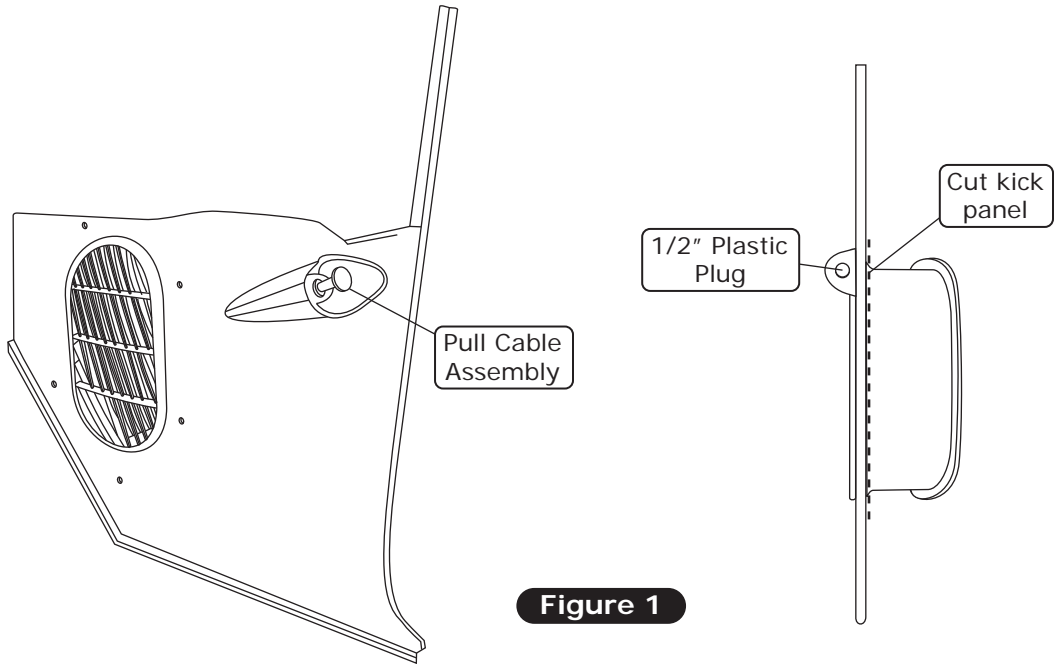

Figure 1
3. Cut the fresh air door flush on the back side of the kick panel (discard) (See Figure 1, below).